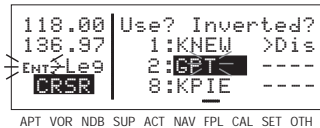

Figure 4-15
- Complete the waypoint entry operation (figure 4-15).